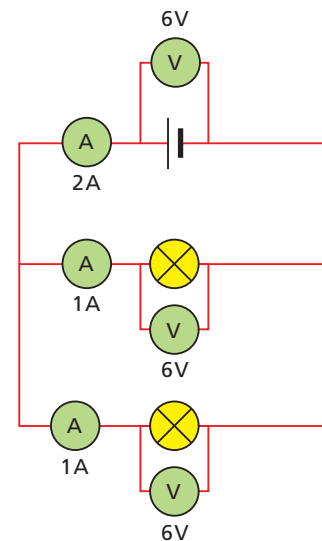

FIGURE 2.6.17b: A parallel circuit
2. A 12V battery is connected in a circuit with ten identical light bulbs in parallel. Compare this with the circuit in Figure 2.6.17b. What will the current be in each individual loop?